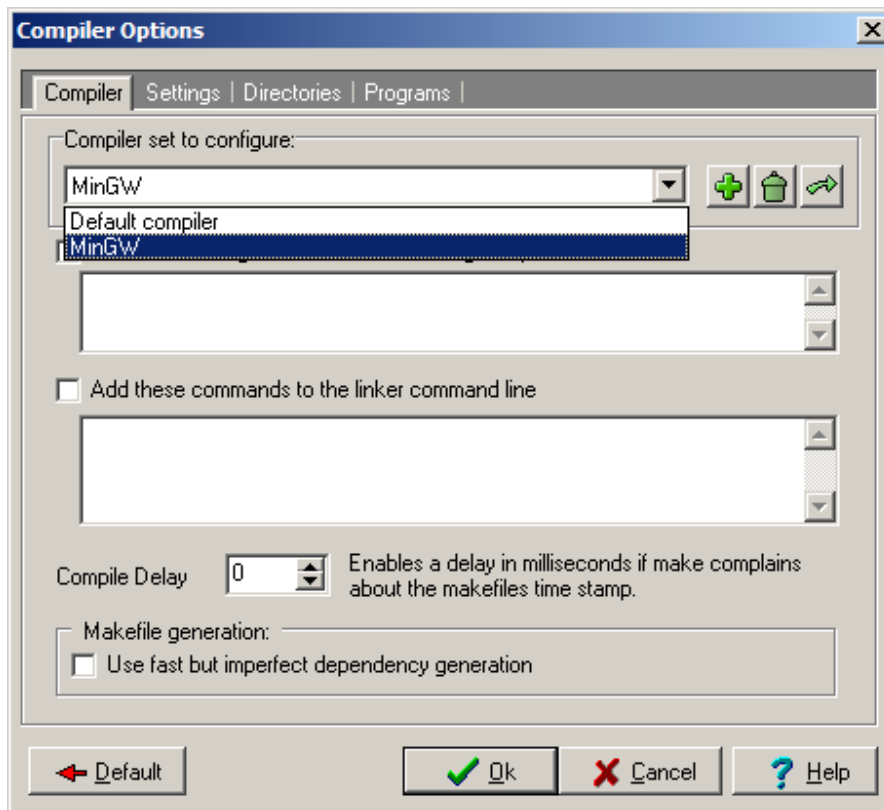
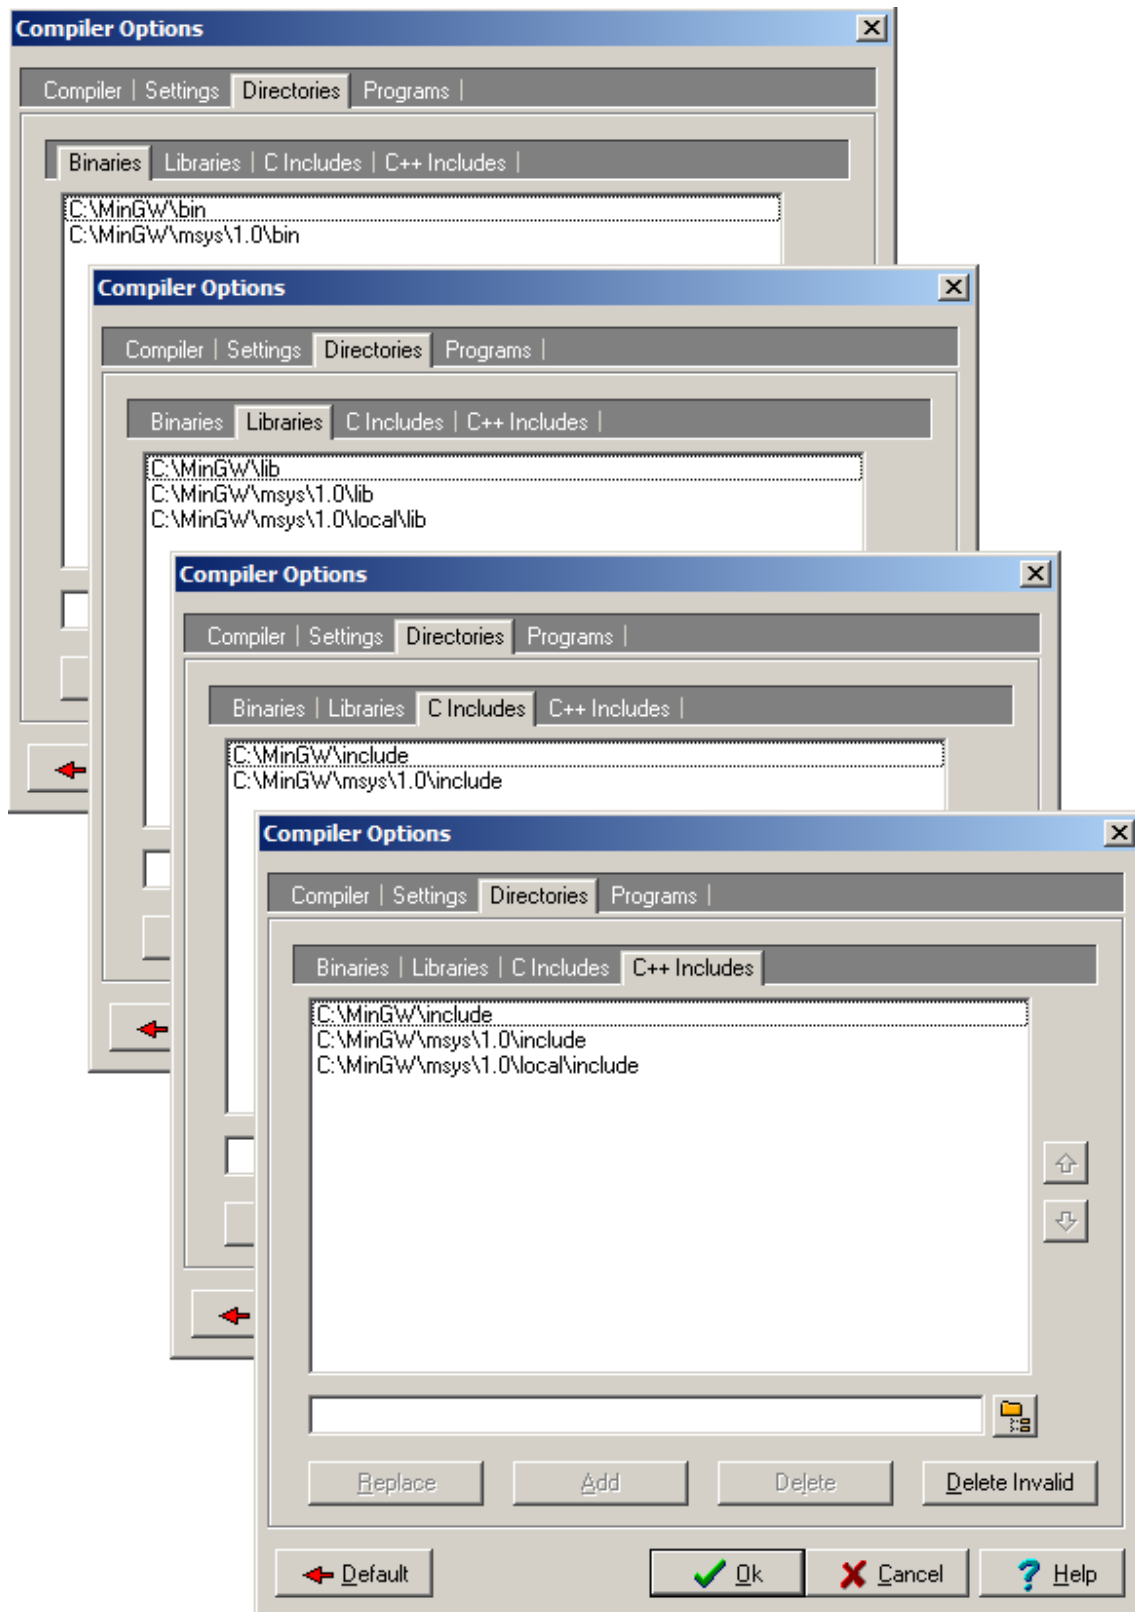

Figure 3.1 Adding new compiler configuration.
Figure 3.2 Setting directories for MinGW compiler.
*Compiler Options.* Add new compiler configuration with + button, give it a name (for example MinGW) and apply. It should be available in the compilers list Fig. 3.1. Next step is to add directories to the MinGW compiler resources. On Fig. 3.2 directories (for the default MinGW directory installation) are presented in subsequent window tabs. Directories with *msys* are only needed if for example user plans to install own additional libraries. Apply all the changes with *OK* button.